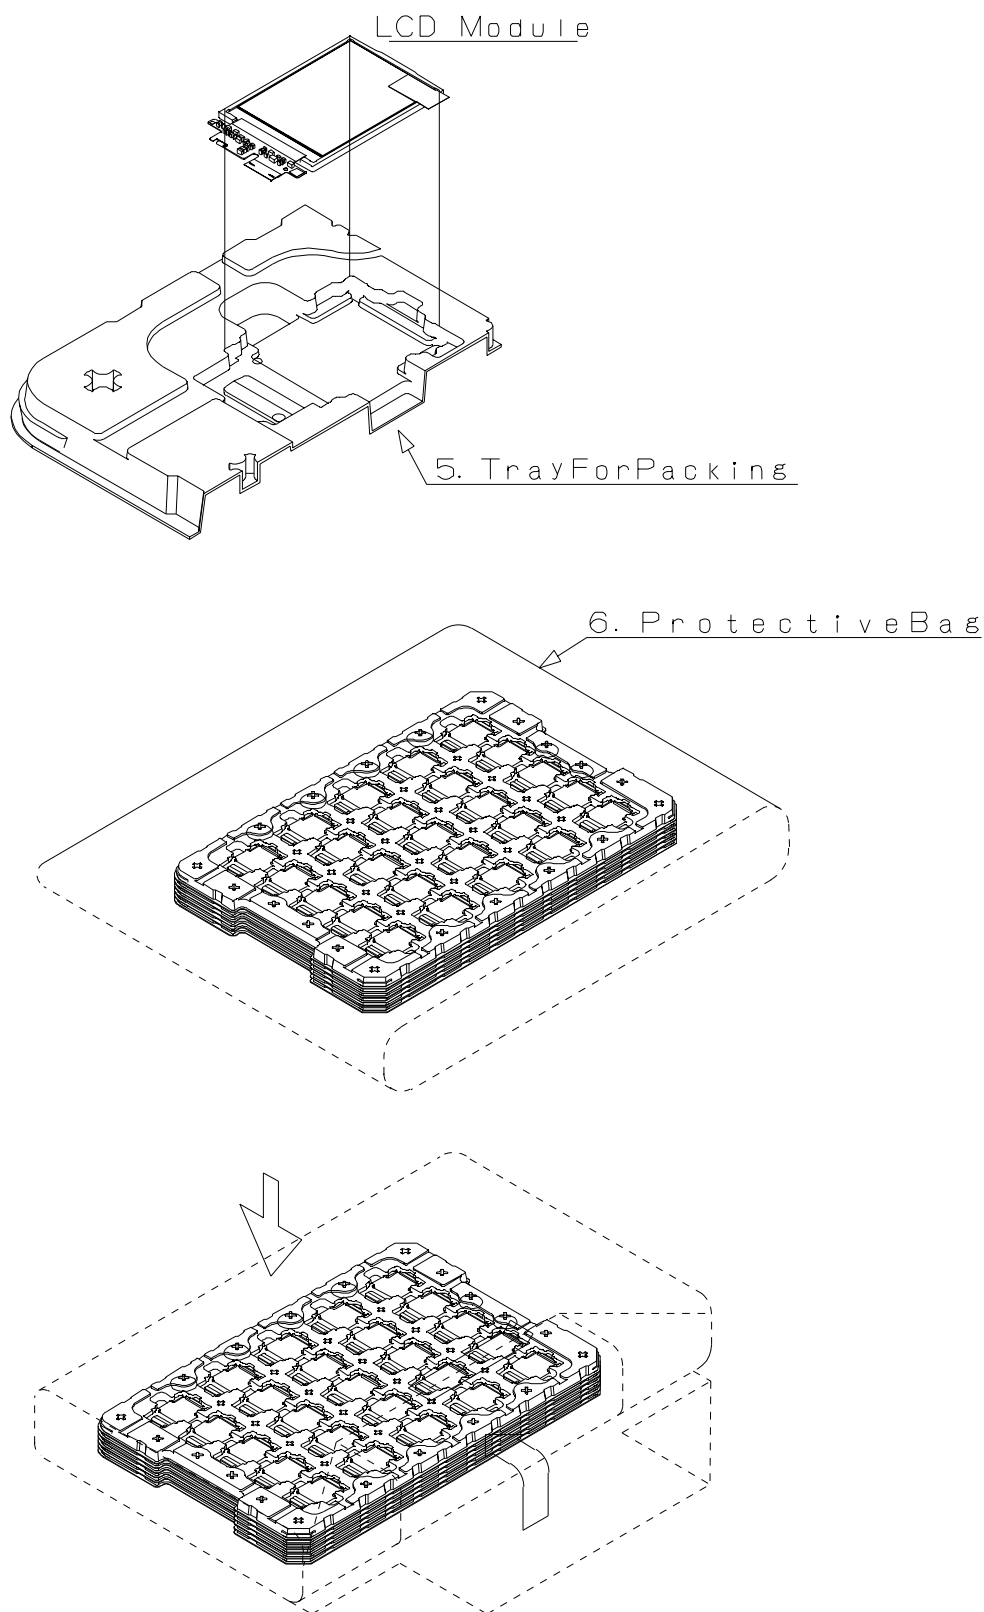

Fig.10 Packaging style (Tray for packaging)
- 2) Packaging style : Fig. 10, 11